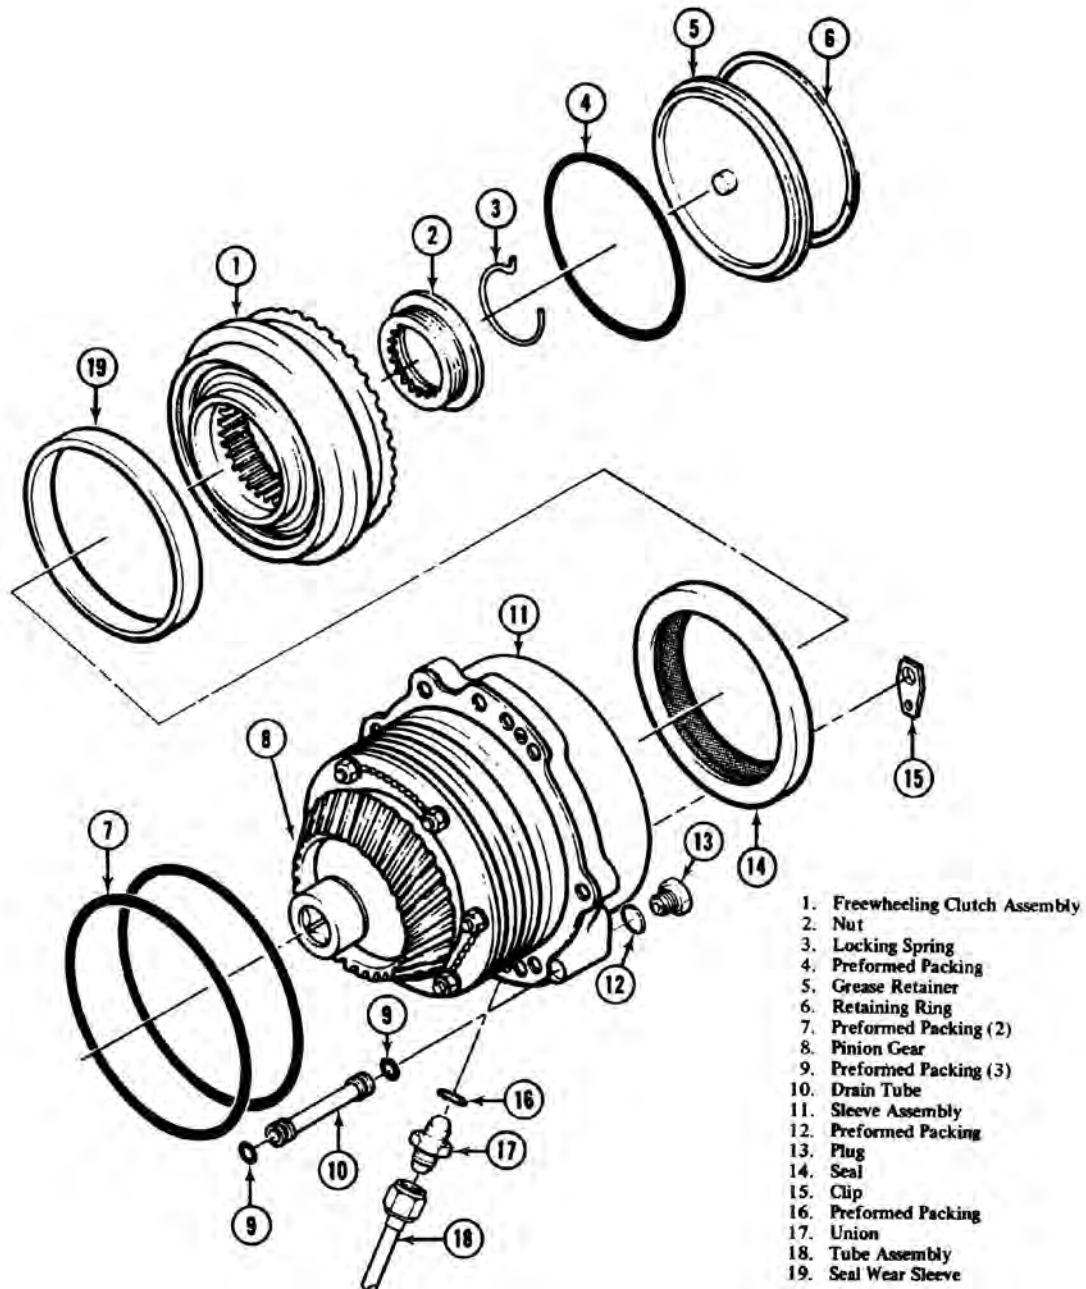

Figure 63-45. Input Drive Quill (205-040-263-003)
63.7.3.1.2 Disconnect tube assembly (18, Figure 63-45) from union (17) at lower side of input quill.
63.7.3.2.1 Uncover mounting port on aft side of transmission case. Check that mating surfaces of case and quill are clean. Inspect grooves provided for packings (7 and 9, Figure 63-45). Remove any burrs which might damage packings.
63.7.3.2.5 Install two new preformed packings (9, Figure 63-45) on drain tube (10). Lubricate packings with transmission oil (C-011) and install drain tube (10) in hole provided in transmission case.
63.7.4.1.2 Remove retaining ring (6, Figure 63-45) and grease retainer(S) with preformed packing (4) from freewheeling clutch assembly (1). Remove locking spring (3). Use T101488 wrench set and remove nut (2).
63.7.4.1.9 Using a suitable three-leg gear puller, with legs turned out, and a plate across the outer end of the pinion, extract seal (14, Figure 63-45) out of the input quill housing. Remove all old adhesive from around seal area, using a plastic scraper, and clean with a dry, clean cheesecloth. Apply a film of sealing compound (C-328) to outside diameter of seal (14). Bridge over pinion shaft so that uniform pressure may be applied around the entire circumference of the seal while installing to avoid cocking and distorting. Make sure seal is bottomed against shoulder of input quill housing. Remove all excess sealant.
63.7.4.1.11 Remove previously installed retaining ring (6, Figure 63-45), grease retainer (5) and install a new preformed packing (4) on grease retainer (5). Install nut (2) and using T101488 wrench set torque 350 to 400 foot-pounds. Install lock ring spring (3). Coat preformed packing (4) with transmission oil (C-011) and install grease retainer (5) and retaining ring (6)